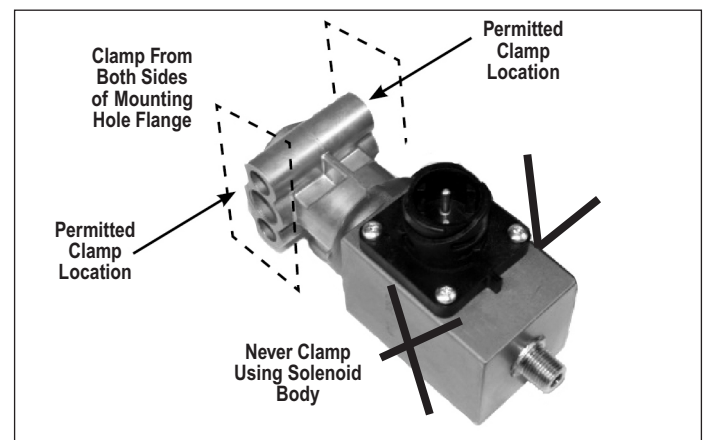

FIGURE 3 - VISE CLAMP LOCATION FOR BENCH INSTALLATION OF FITTINGS
- (b) bench installation of the fittings, using **only** the clamp location shown in Figure 3, before installing the valve on the vehicle.
1. Clean and inspect all air lines and electrical harnesses for damage and replace as necessary. Select one of the two fitting installation methods, either bolt the valve onto the vehicle first, or clamp, as shown in Figure 3, using a bench vise.